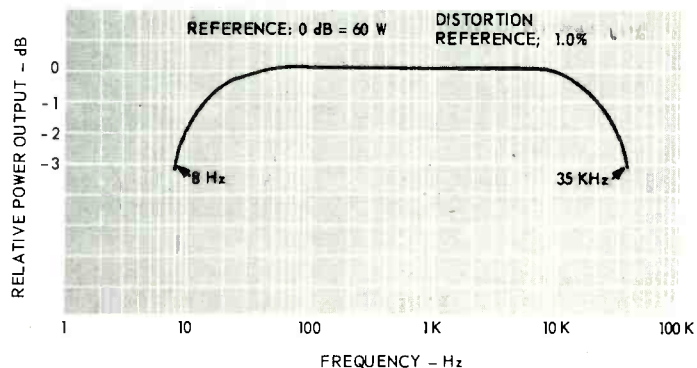
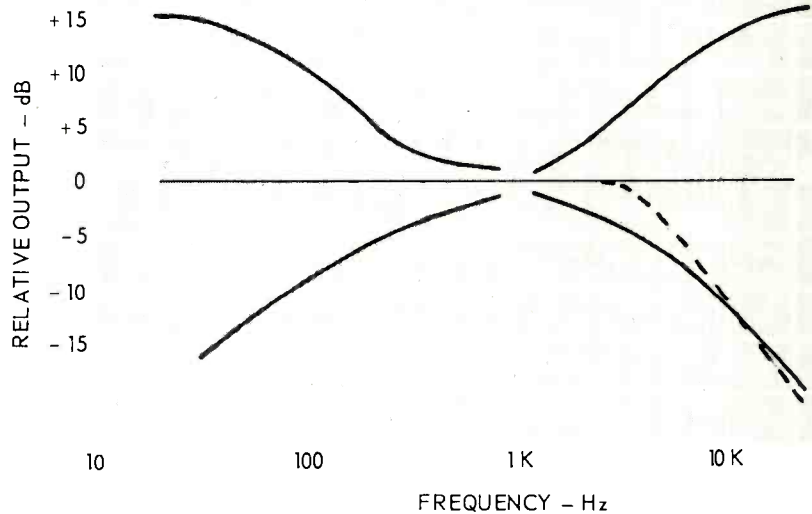

Fig. 7—Power bandwidth
Fig. 8—Tone-control characteristics
1.0% THD (as do many other manufacturers) we would have to rate this amplifier at 65 watts per channel. IM distortion reached 0.6% at an output of 60 watts, and both THD and IM decrease progressively at lower power outputs, with no tendency to rise at very low power output levels. Clipping is symmetrical when the amplifier is driven far into overload. Power bandwidth was measured using a distortion reference of 1.0% and a power output reference (0 dB) equal to 60 watts. End points are at 8 Hz and 35 kHz, as shown in Fig. 7. Tone-control range is plotted in Fig. 8, and the tone-control circuitry is of the variable-crossover feedback type. The high-frequency cut-off filter, whose response is plotted in Fig. 8, has a 12 dB per octave slope which makes it effective in reducing high-frequency noise and record scratch.